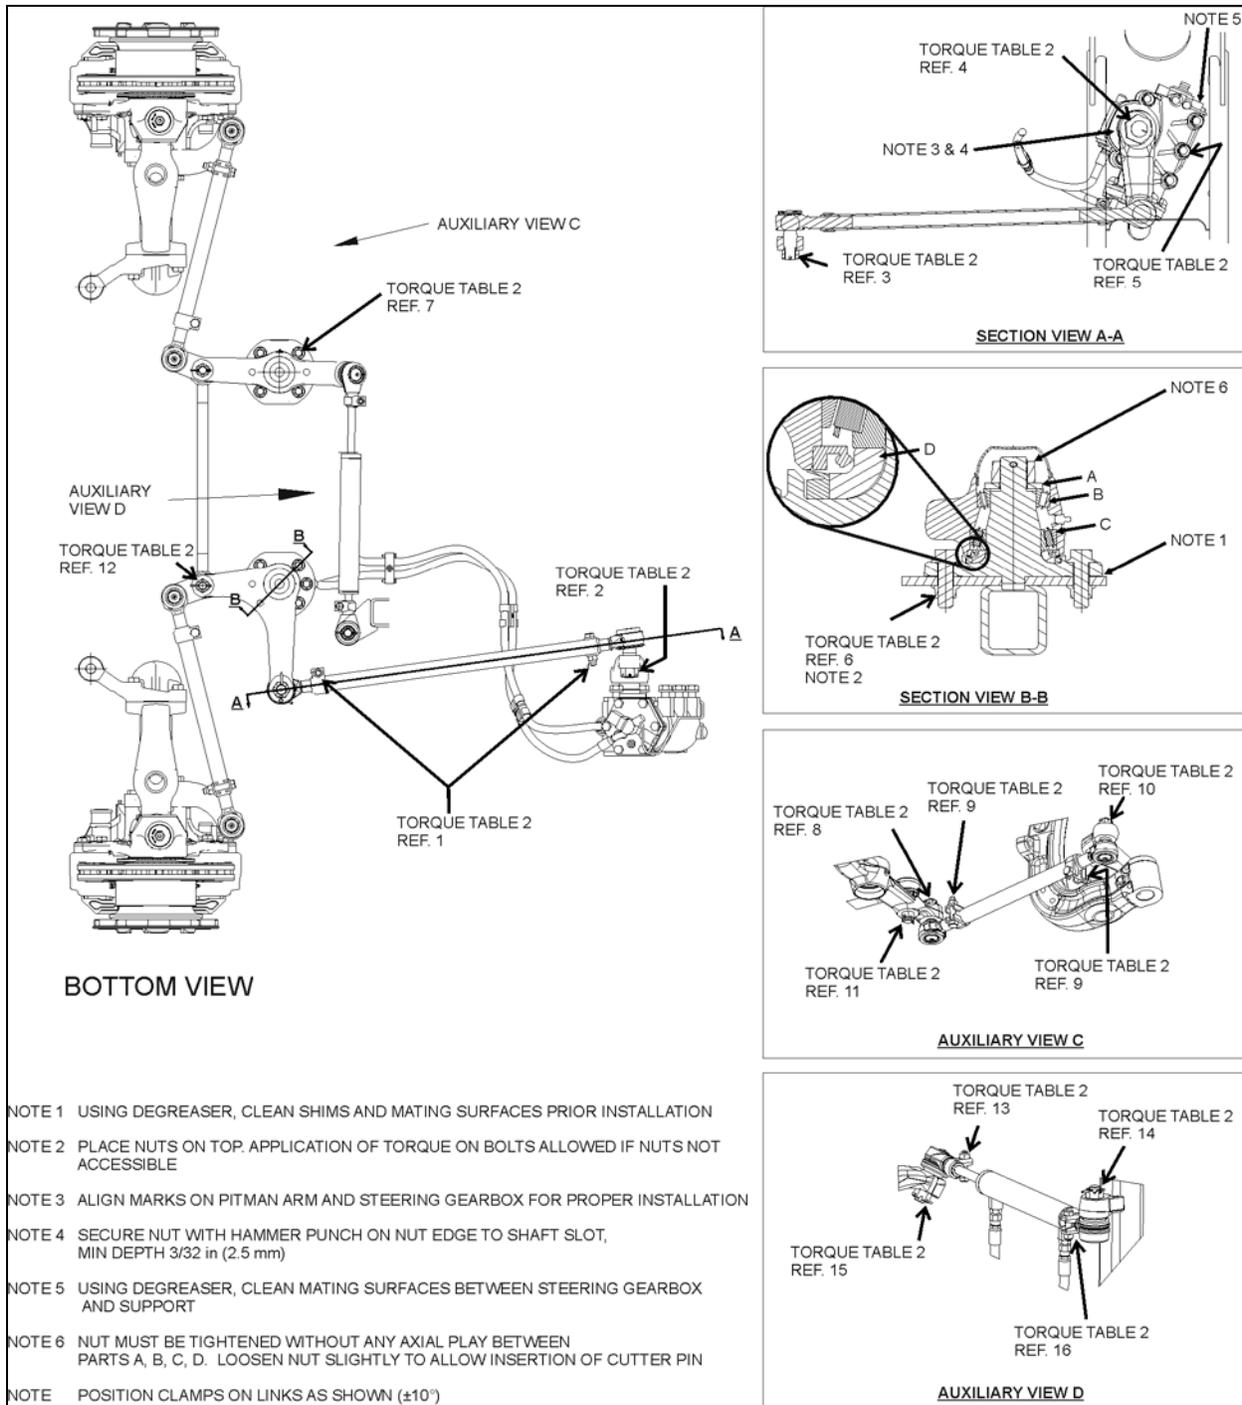

FIGURE 11: IFS STEERING LINKAGE
2. While performing a full left and right turn, check for proper position of the tie rod end clamp bolt and nut and drag link end clamps in order to avoid clamps interfering with close parts. Refer to figure 11 for location